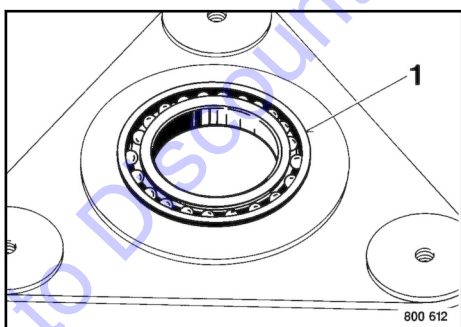

Fig. 224
5. Knock ball bearing 1 ↗ Fig. 224 out of the flange.